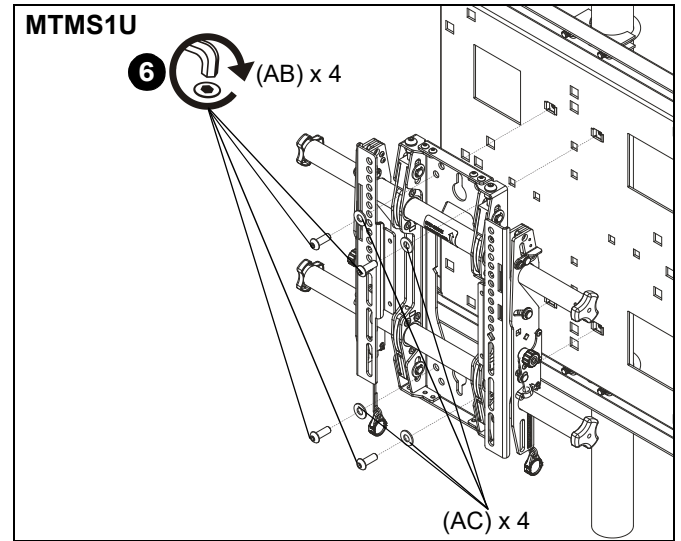
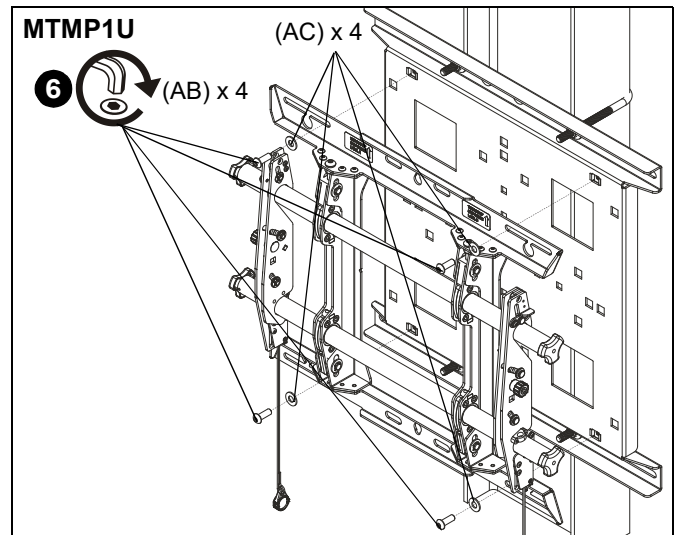

Figure 6
Figure 7
6. Use two or four 5/16-18 x 7/8" button head cap screws (AA) and two or four .750x.350x.060 spacers (AB) to secure mount to top cage nuts installed in Step 1. (See Figure 6) or (See Figure 7)